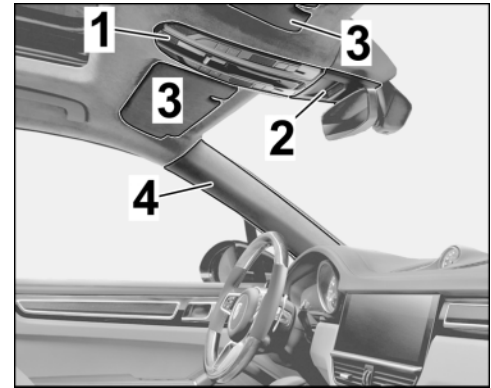

Figure 3
1.3 Expose front roof/(interior) rear-view mirror area (⇒ Figure 3)